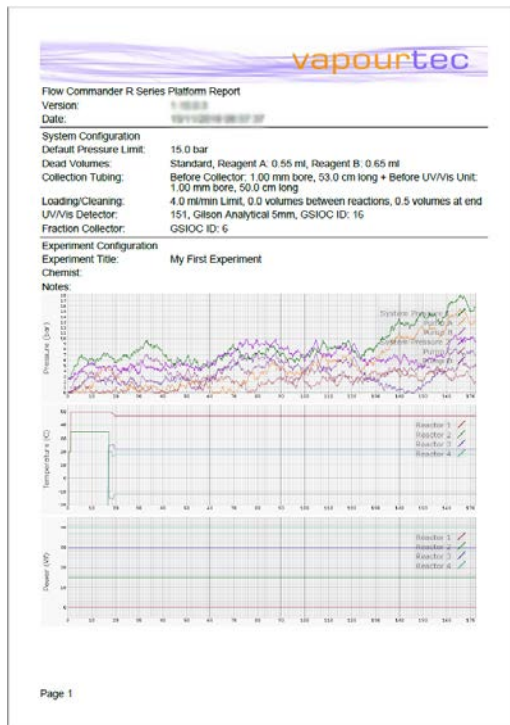

Figure 11.5: PDF Report
- A printer-friendly PDF report, see Figure 11.5, is generated and includes: